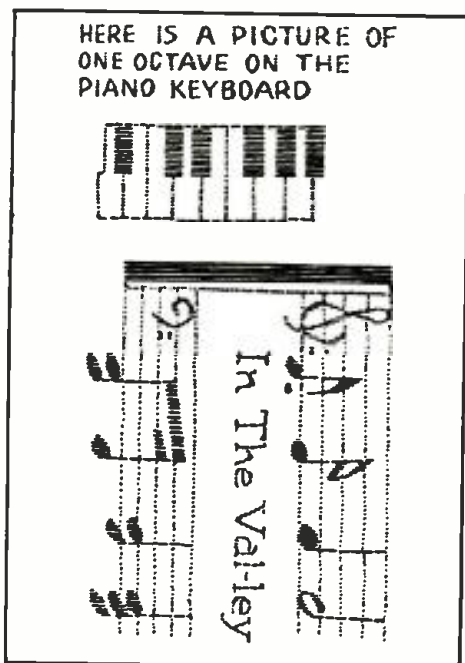

Fig. 1
The later type has been arranged so that it will use pen-and-ink drawings, typewritten text or printed matter directly from the paper itself, thus eliminating the cost and delay of preliminary processing. This is the system used in making the abbreviated examples shown in Fig. 1.
The detail that is possible with this system of facsimile transmission is dependent upon the speed of transmission. For example, in the recent demonstration of the system (when the samples shown at Fig. 1, as well as a group of simple pictures of animals and other objects, were sent a distance of approximately 5 miles, from Long Island City
Fig. 1—The Department of Commerce radio installation for blind landings, at Newark Airport. (1) short-wave landing beam station; (2) runway localizing beacon; (3) approach marker beacon; (4) boundary marker beacon; (5) spatial gliding path formed by constant field intensity below the inclined landing beam; (6) point of contact with the ground; (7) monitoring and two-way communication equipment; (8) remote control stations; (9) control cable.